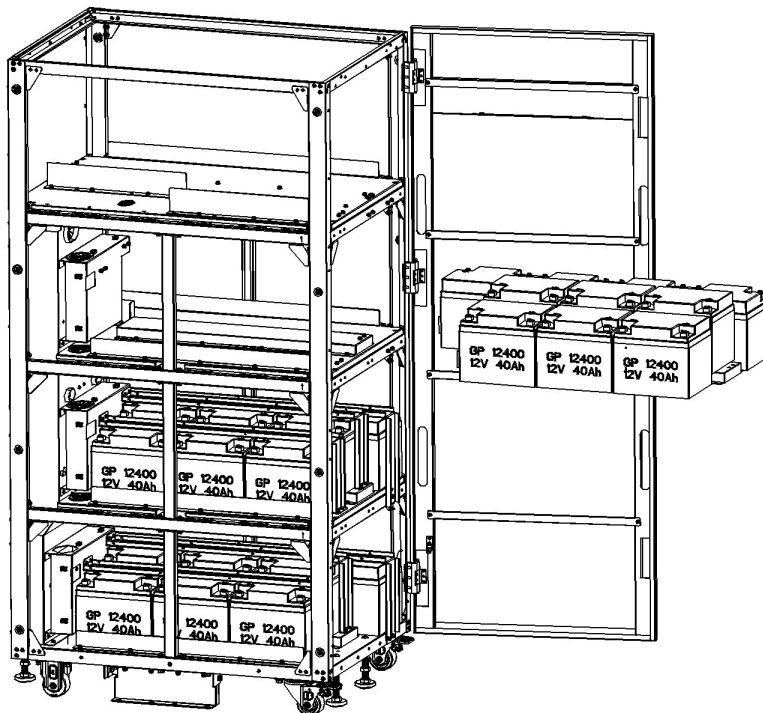

Figure 5-48
7. Reinstall 2 battery retention brackets with screws in layer 2 (Figure 5-48).
8. Install 10 battery packs in layer 3. (Figure 5-48).